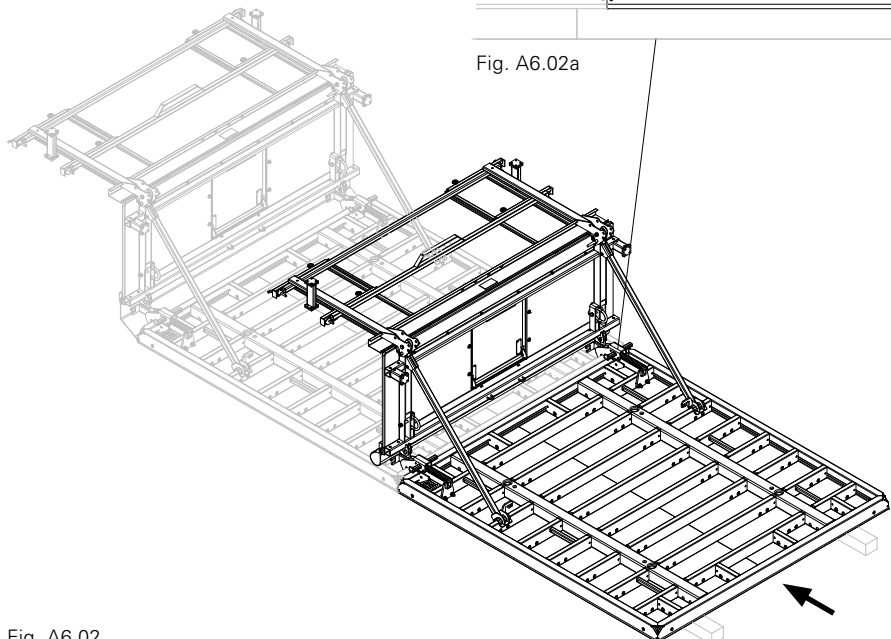

Fig. A6.02
1. Lift covering (rubber, yellow) (6).
- (Fig. A6.02 + A6.02a)